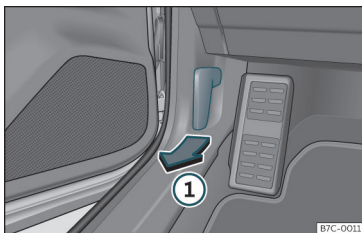

Fig. 199 Release lever in the driver's footwell area.
- Open the door and pull the lever under the dashboard»» Fig. 199 ①.